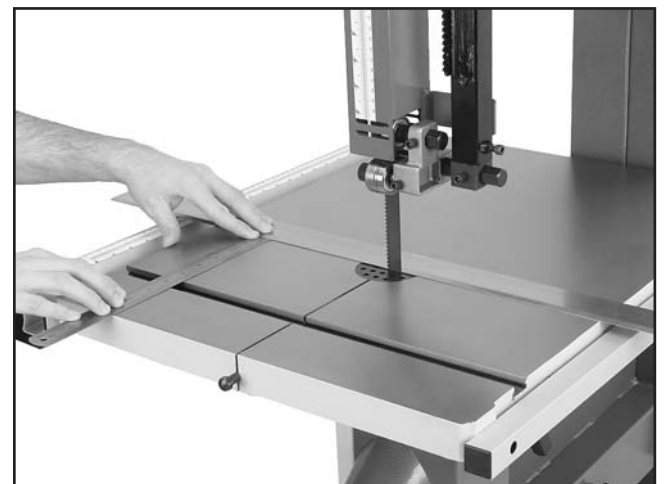

Figure 39. Placing a straightedge along the blade and measuring to the miter slot.
4. Place an accurate straightedge along the blade. The straightedge should lightly touch both the front and back of the blade (see **Figure 39**).
- Use the fine ruler to measure the distance between the straightedge and miter slot at the front and back of the table (see **Figure 39**).